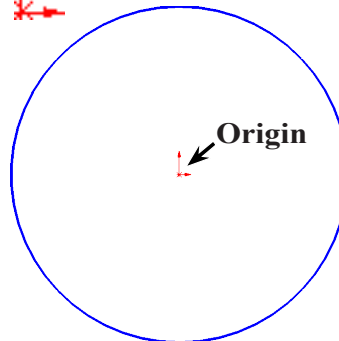

Fig. 2
Step 3. Click **Circle**  (S) on the Sketch toolbar.
Step 4. Sketch a circle starting at the Origin , **Fig. 2**.